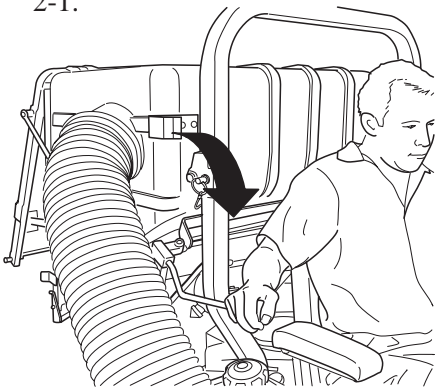

FIGURE 2-1
- B. Pull downward on the hopper door handle to allow the hopper sweeper to remove the material from inside the hopper. See Figure 2-1.